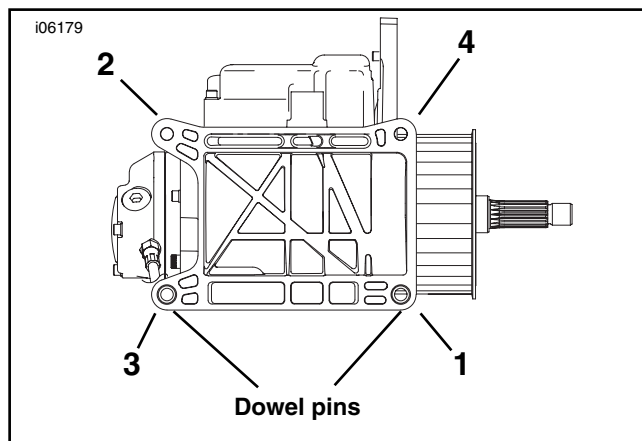

Figure 1. Transmission Housing to Crankcase Torque Sequence
4. See Figure 1. Tighten the four transmission mounting bolts in a cross pattern sequence as follows: